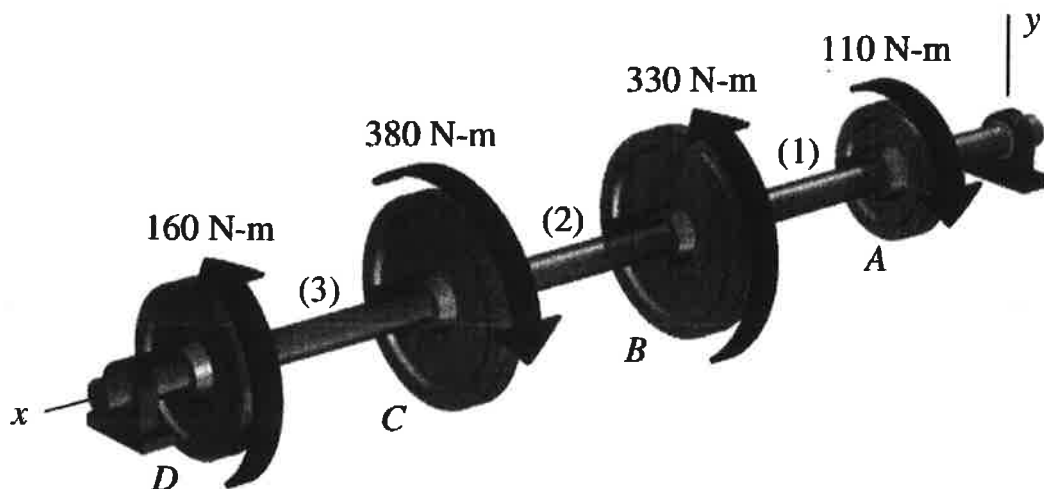

Figure 1
1. A solid constant-diameter shaft is subjected to the torques shown in **Figure 1**. The bearings shown allow the shaft to turn freely.